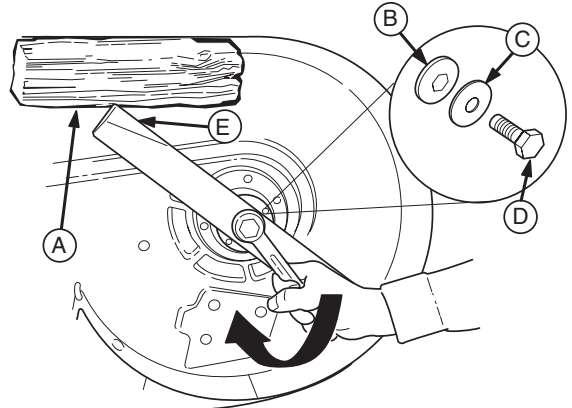
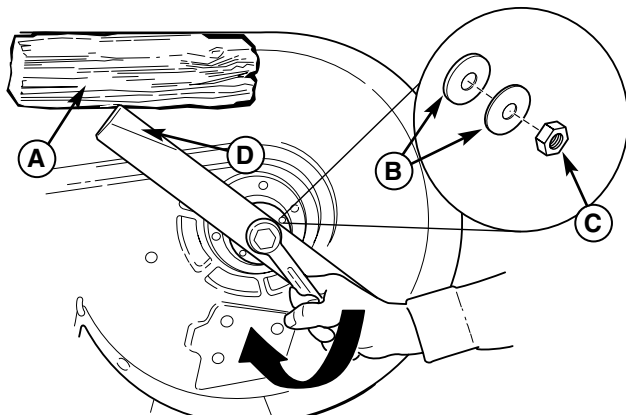

Figure 29. Blade Installation - 50" Deck
Figure 28. Blade Installation - 42" Deck
7. Reinstall the blade with the lift wings (D, Figure 28; E, Figure 29) pointing up toward the mower deck as shown.